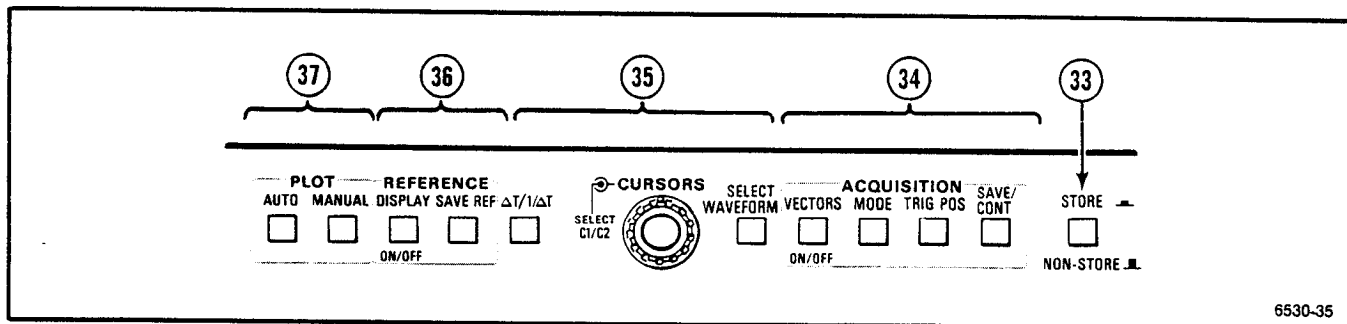

Figure 3-5. Storage controls.
See Figure 3-5 for the location of items 33 through 37.
③3 **STORE/NON-STORE Switch**—Selects either the NON-STORE or the STORE waveforms for display. The STORE acquisition system is turned off while NON-STORE is selected so that the last acquired STORE waveform remains in memory. Selects NON-STORE when out and STORE when pressed in.
③4 **ACQUISITION Controls**—Determine the method of acquiring and displaying the acquired STORE waveform.